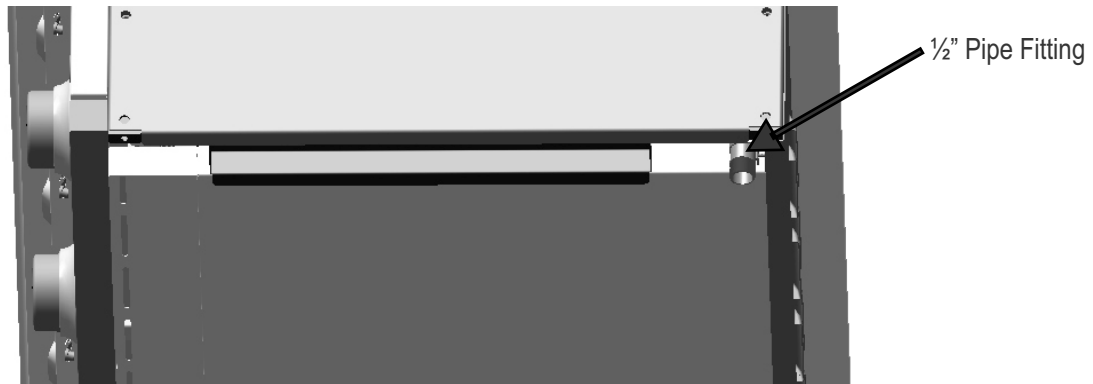

Figure 5
2. Remove the plastic protective cap from the $\frac{1}{2}$ " pipe fitting connection found at the bottom of the right rear corner of the grill (see Figure 5).